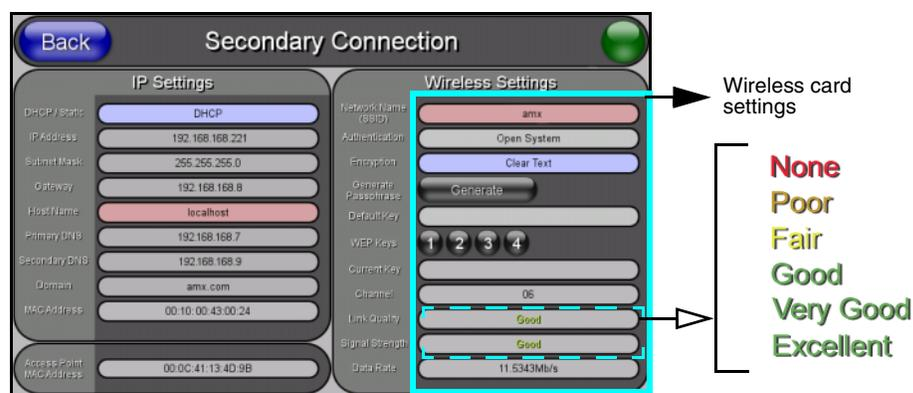

FIG. 57 Secondary Connection page (showing default values)
6. From within the Wireless Settings section of the Secondary Connection page, touch the *Network Name (SSID)* field (FIG. 57).
- The bargraphs have been replaced with descriptions: **None, Poor, Fair, Good, Very Good, and Excellent** (FIG. 57).